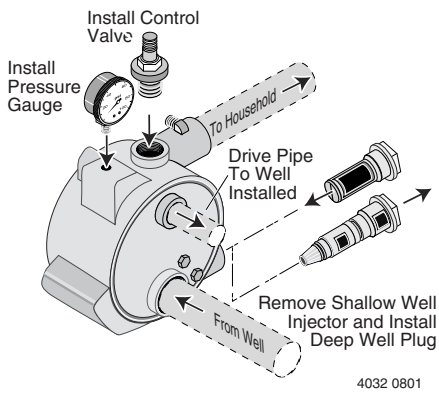

Figure 2: Deep Well Setup
2. Install the control valve, pressure gauge, and deep well plug in the pump body (purchase kit separately; see Figure 2). When connecting to the well head, be sure you go small port to small port (drive) and large port to large port (suction). If necessary, use flexible pipes and twist them to make the correct connections.
3. Simer pumps have the suction pipe (the larger port) below the drive port (see Figures 2 and 3).
1. Install the control valve, the pressure gauge and the deep well injector plug in the pump body. See Figure 2. Purchase Model MDWC Deep Well Conversion Kit to obtain these parts.
1. Install the control valve, pressure gauge, and deep well plug in the pump body. See Figure 2. Purchase Model MDWC Deep Well Conversion Kit to obtain these parts.